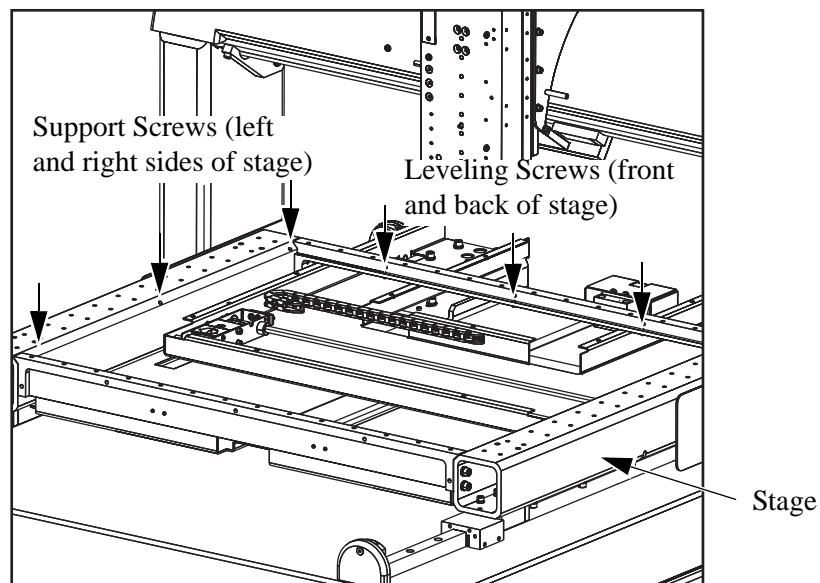

Figure 6-4 Location of Stage Glass Leveling Screws
12. Use a 3 mm Allen wrench to **loosen** the six nylon-tipped stage glass support screws (accessed from below the stage); see Figure 6-4. Use the access holes on the sides of the stage to access the two middle screws.